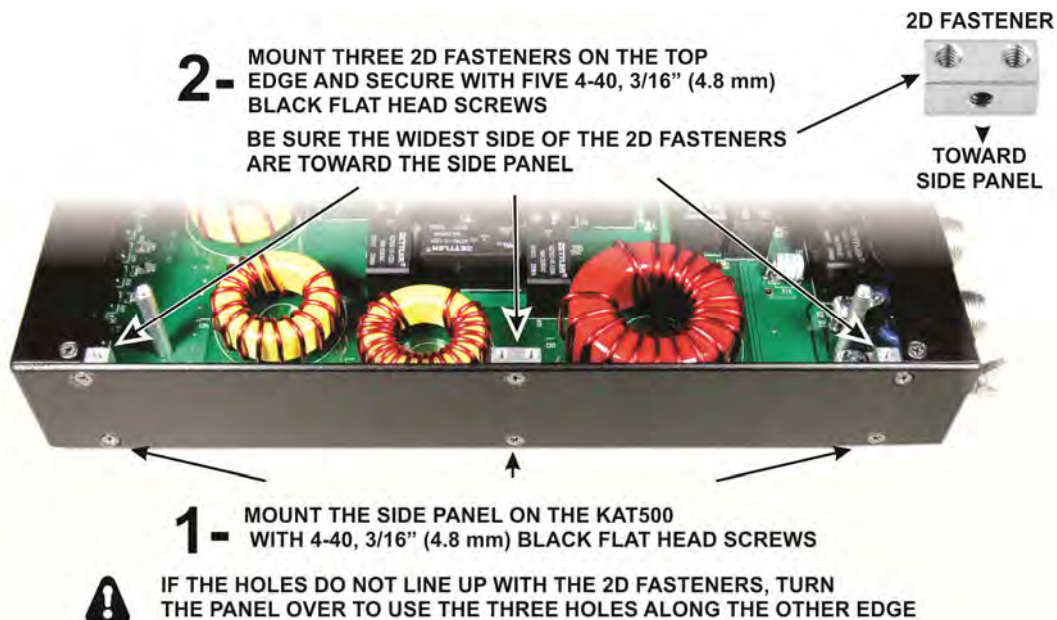

Figure 31. Installing the Side Panels.
- Place a side panel on the KAT500, lining up the three holes along the bottom with the 2D fasteners between the pc board and the bottom cover. Be sure all three holes line up. If they do not line up, turn the side panel over to line up the other three holes. Attach the side panel with three screws as shown in Figure 31 (1).
- Mount three 2D fasteners along the top edge of the side pane as shown in Figure 31 (2). Be sure the widest side is toward the side panel as shown. You may need to loosen the screws along the bottom edge to allow the panel to move to properly align the holes.